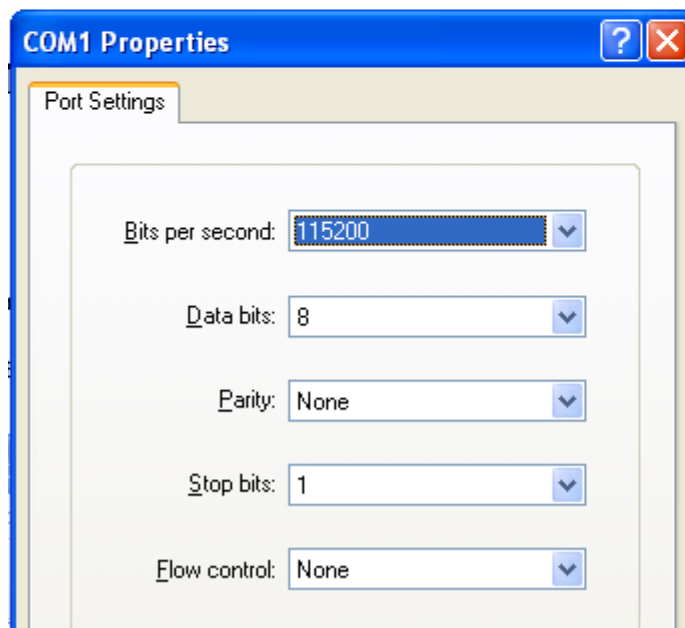

Figure 1-19. HyperTerminal Settings
- ① Connect and power up the Spartan-3E starter kit
- ② Open a hyperterminal session (**Figure 1-19**)